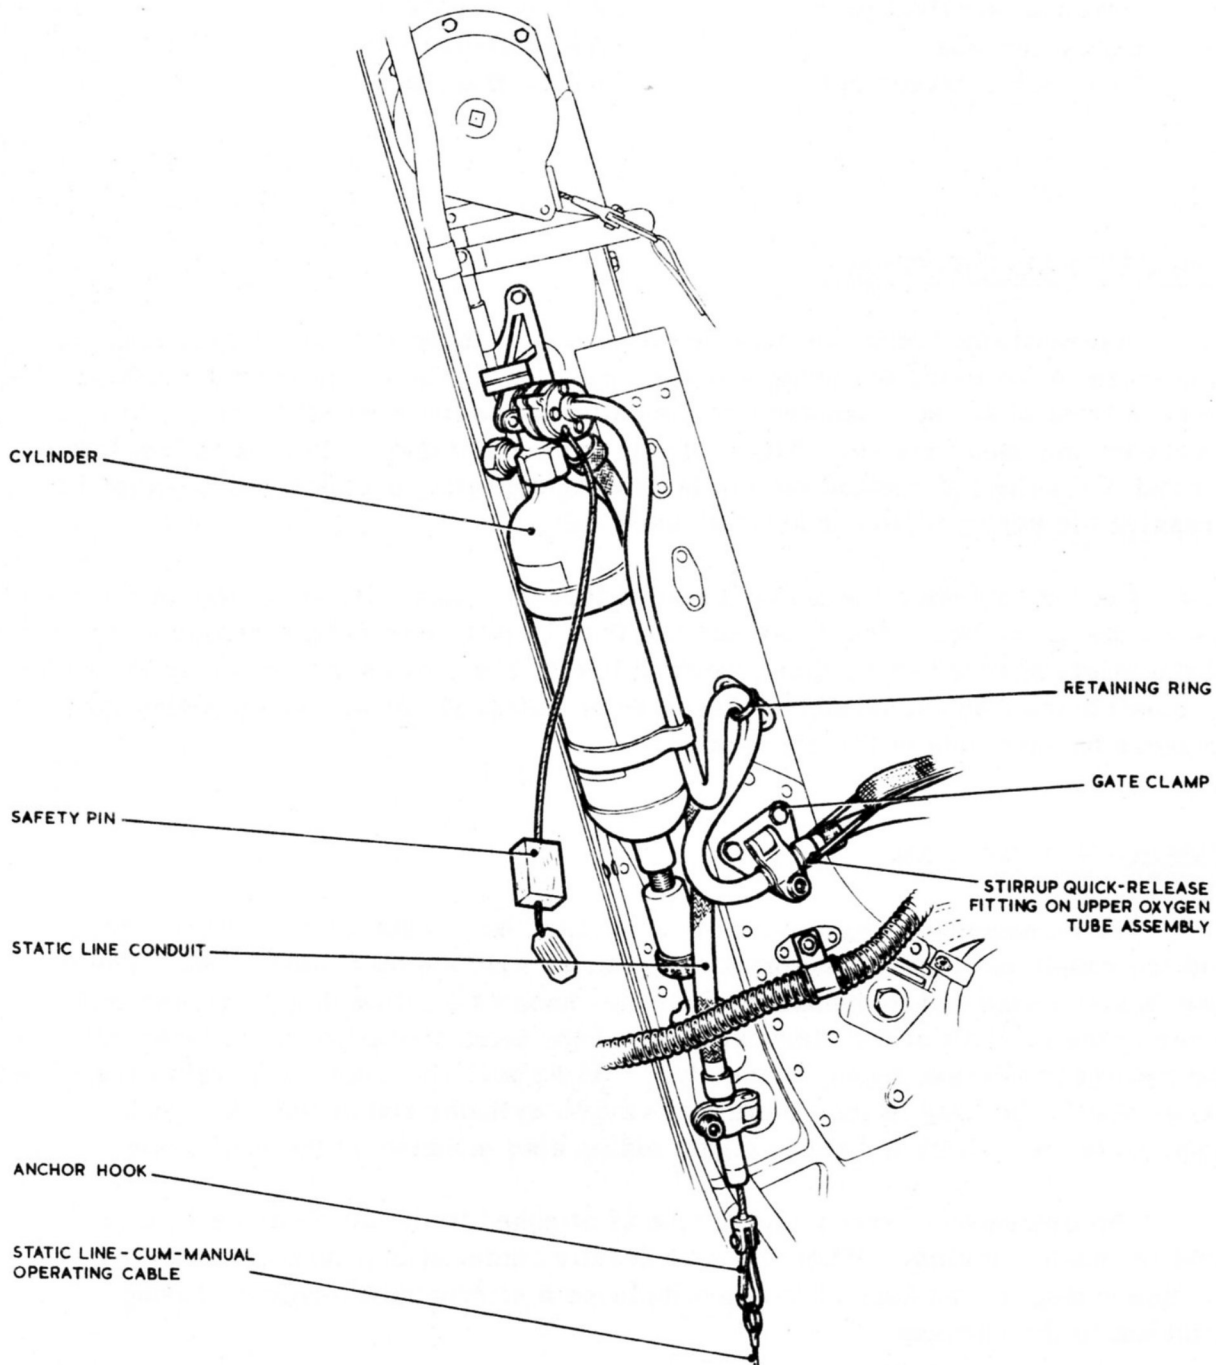

Fig.1 Arrangement of emergency oxygen supply
18. The following procedure is to be used when equipping the seat; refer to fig 1 to 8 for detail as necessary:-